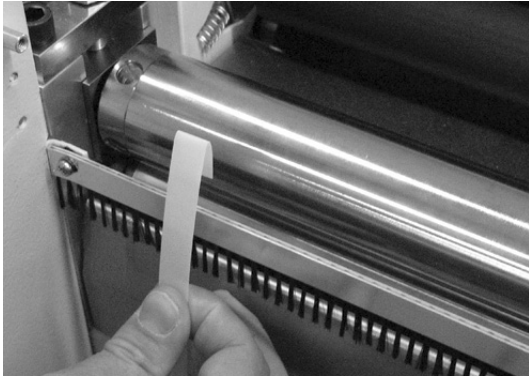

Figure 12a
1. Optional Flow Straps can be used when processing thicker paper stock. To install, fold over 1/2 inch of strap. (Figure 12a & b)